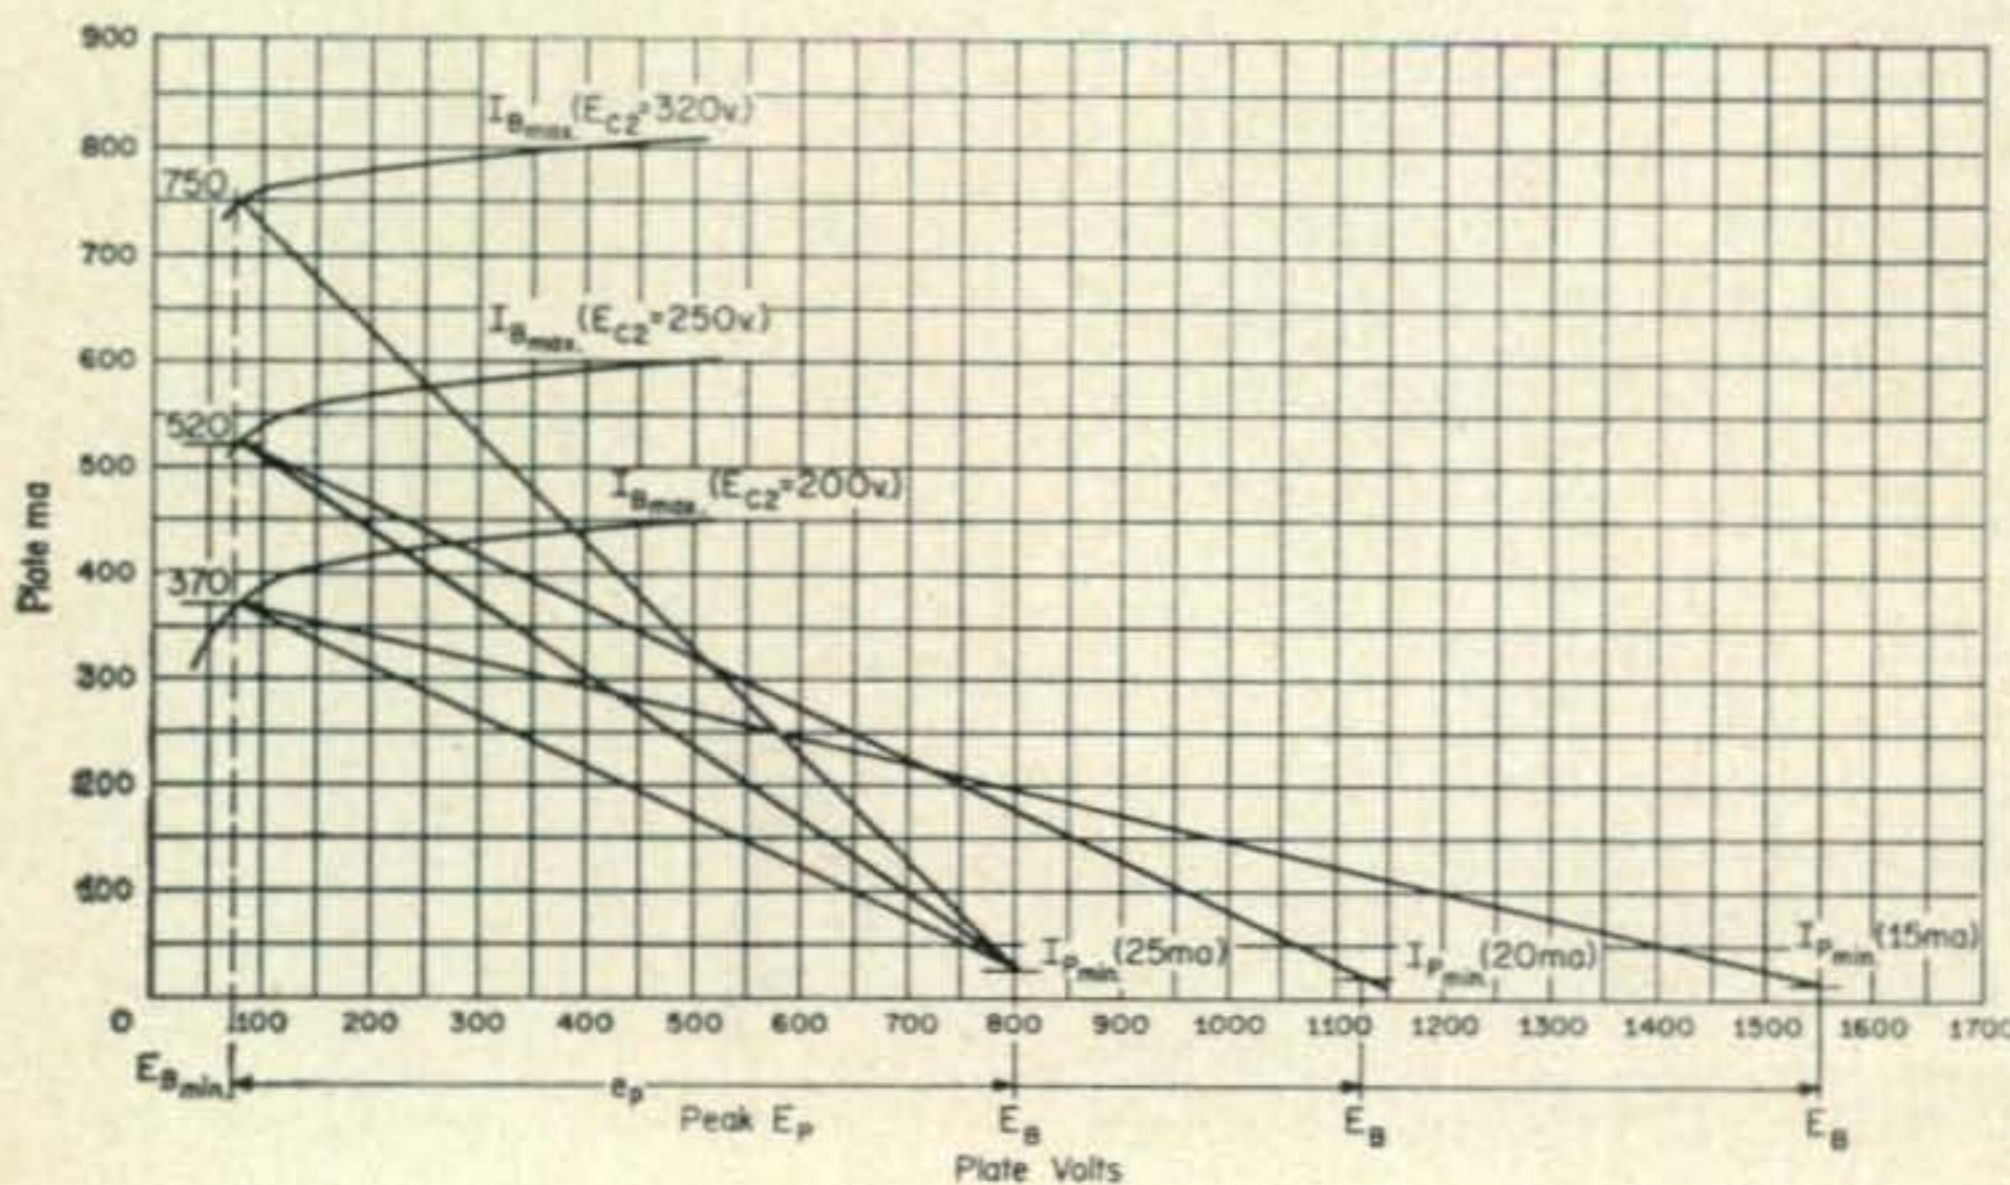

Fig. 1—Curves depicting the zero bias characteristics of the 6146 with screen voltages of 200, 250 and 320 volts.
Fig. 1 (A) Circuit modification in the NCX-3. The components must be mounted close to V_5 , the v.f.o. Varicap, CR_1 , is a Pacific Semiconductor, Type V 20. (B) Goodie Box wiring is also very simple. The 25K RCVR INCREMENTAL TUNING (RIT) has a log taper and a push-pull on-off switch mounted on it. The 100 kc oscillator is a commercial unit discussed in the text. Resistor R_1 value is selected for the particular relay used.
power. Increasing the screen voltage accomplishes the same results as it increases the usable peak plate current as is shown on the tube curves. In a Class AB¹ amplifier we are concerned with the zero bias line as this limits the swing to a point where zero grid current is drawn. Above this point, where grid current starts to flow, a number of undesirable things happen as will be shown later. Increasing the screen voltage raises the zero bias line and allows increasing the swing, within the tube dissipation limits, without drawing grid current. Referring to fig. 1, the 6146 tube (all types), at its rated 200 volts on the screen, has an $I_{b\max}$ of 370 ma with an $E_{b\min}$ of 75 volts at the knee of the zero bias curve.